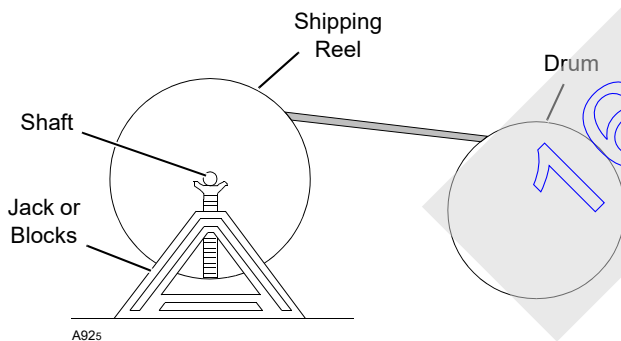

FIGURE 4-37
1. Mount wire rope shipping reel on a shaft supported at both ends by jacks or blocks as shown in Figure 4-37.